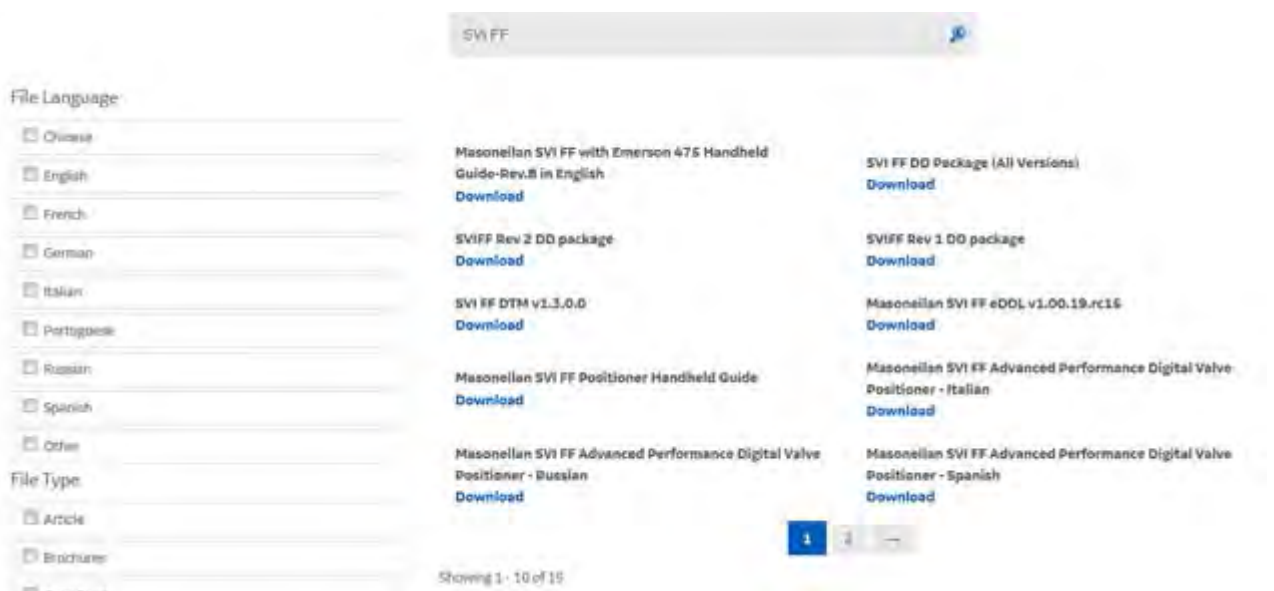

Figure 68 Search Results
1. Enter *SVI FF* in the *Search* field and the screen below appears (Figure 68).